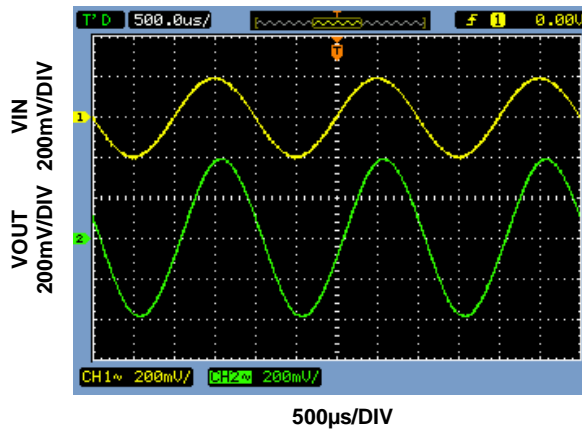

Figure 5. TS1002 and TS1004 Non-Inverting Configuration Input and Output signals
- 9) Observe the input and output signal. The output signal is an amplified version of the input signal with an output swing of approximately 800mV_{PP}, corresponding to a signal gain of two. Figure 5 shows what the input and output signal should look like. The input signal is in yellow and the output signal is in green.